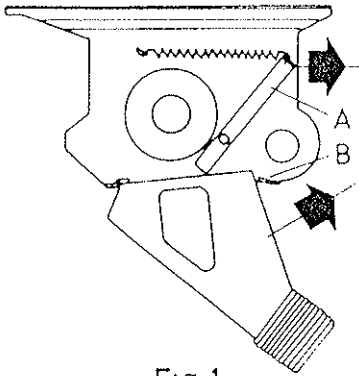

Fig.1
- First: Narrow passage small spurs for fine grains (figure 1.)
- First: modify the inferior aperture of the peephole according to size of grain (figures 1,2,3)
TO REMOVE: Fig 1